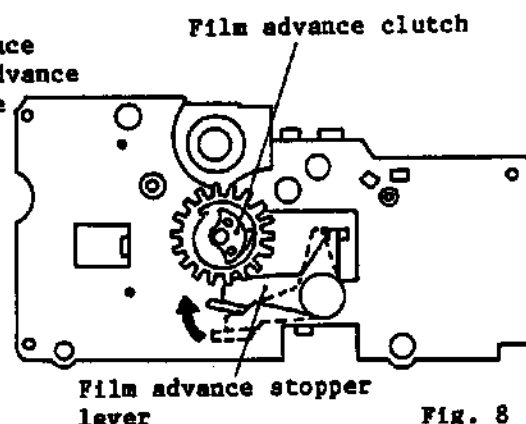

Fig. 8
- (5) After setting the film advance stopper lever to the film advance completion position, set the film advance clutch at the position as shown in Fig. 8.
Attach main FPC with screws Fig. 8